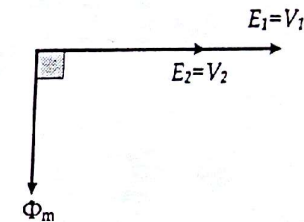

Fig. 1.6. Phasor diagram of ideal transformer at no-load
*In an ideal transformer, the terminal voltages are in-phase as shown in the phasor diagram of Fig. 1.6.*